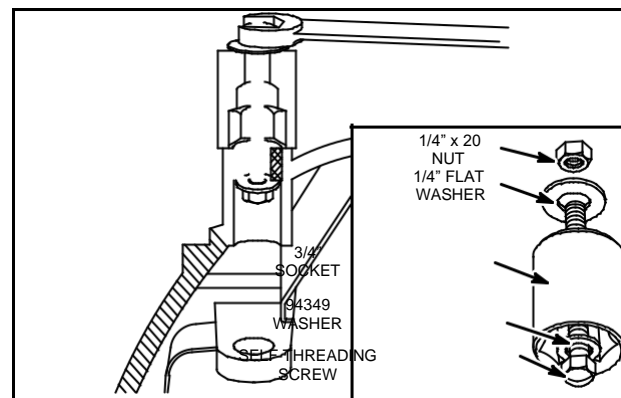

Fig. 17 – Remove Bushing
2. Use self threading screw from #19165 flywheel puller and one (1) #94349 hardened washer from 19332 tool kit, Fig. 17.
Continue tightening until bushing is removed, Fig. 17.